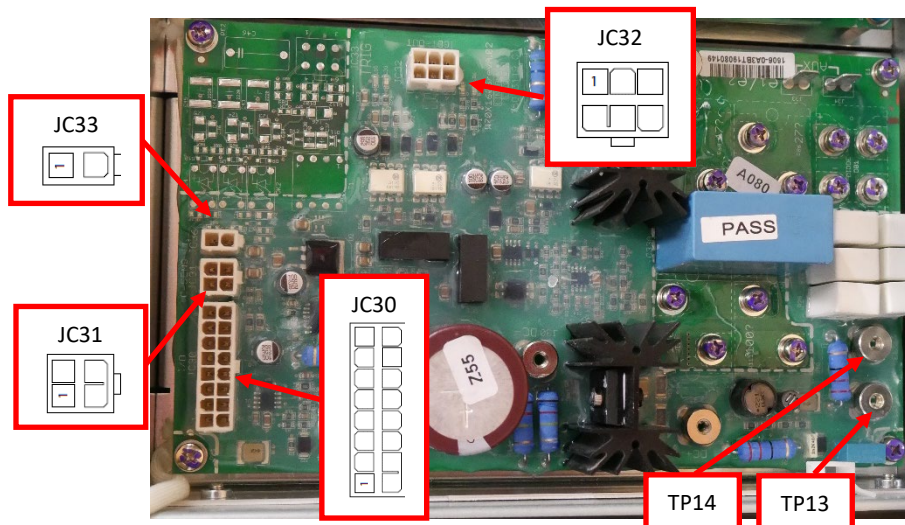

Figure F.4
B.3. Perform the measurements in Test Table 2 below, refer to Figure F.4 for test point locations. **NOTE: DO NOT DISCONNECT WIRES FROM THE OUTPUT CONTROL BOARD.**